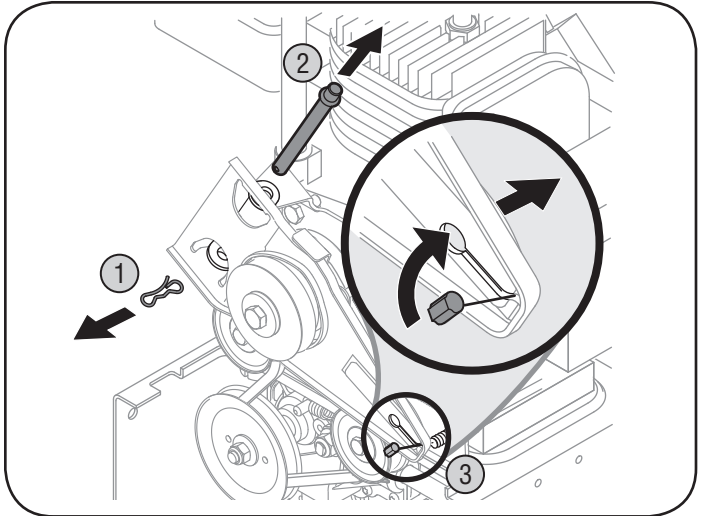

Figure 15
1. Remove hairpin clip and pivot rod from unit. See Figure 15.